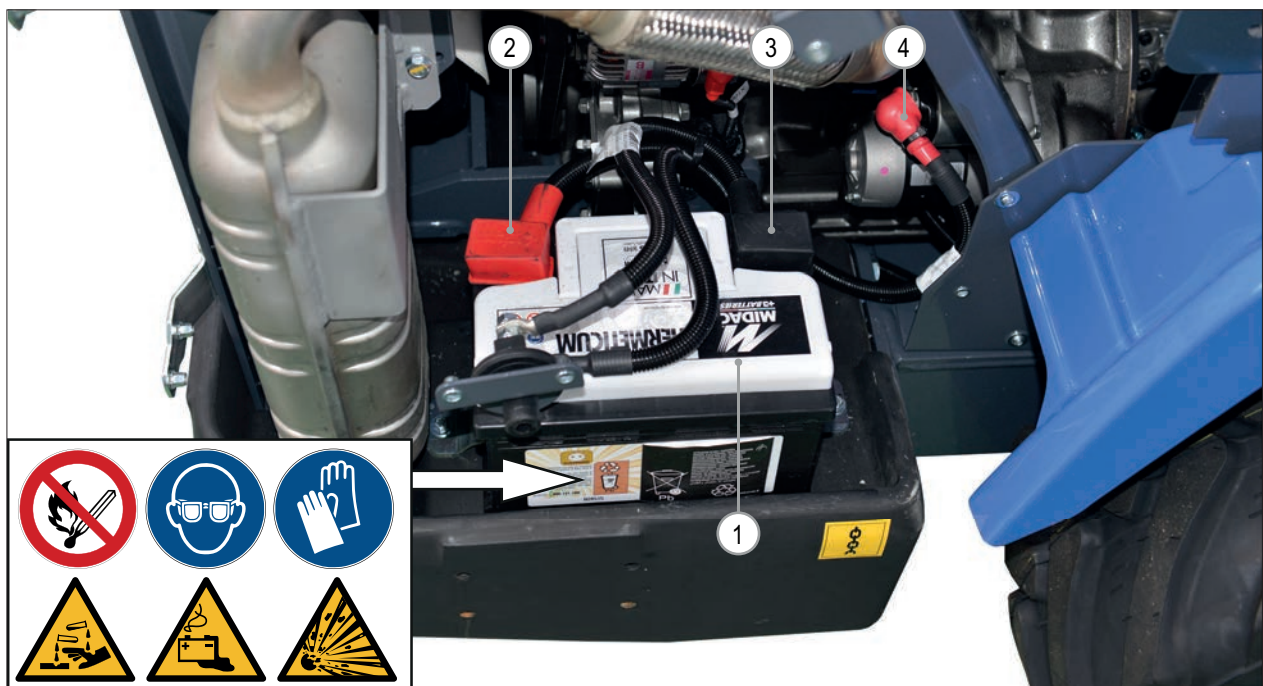

FIG. 40
- The battery (FIG. 40 - Ref. 1) is intact and not leaking.
- Check power cable connections (FIG. 40 - Ref. 2 - 3) for signs of leaking, corrosion, or damage.